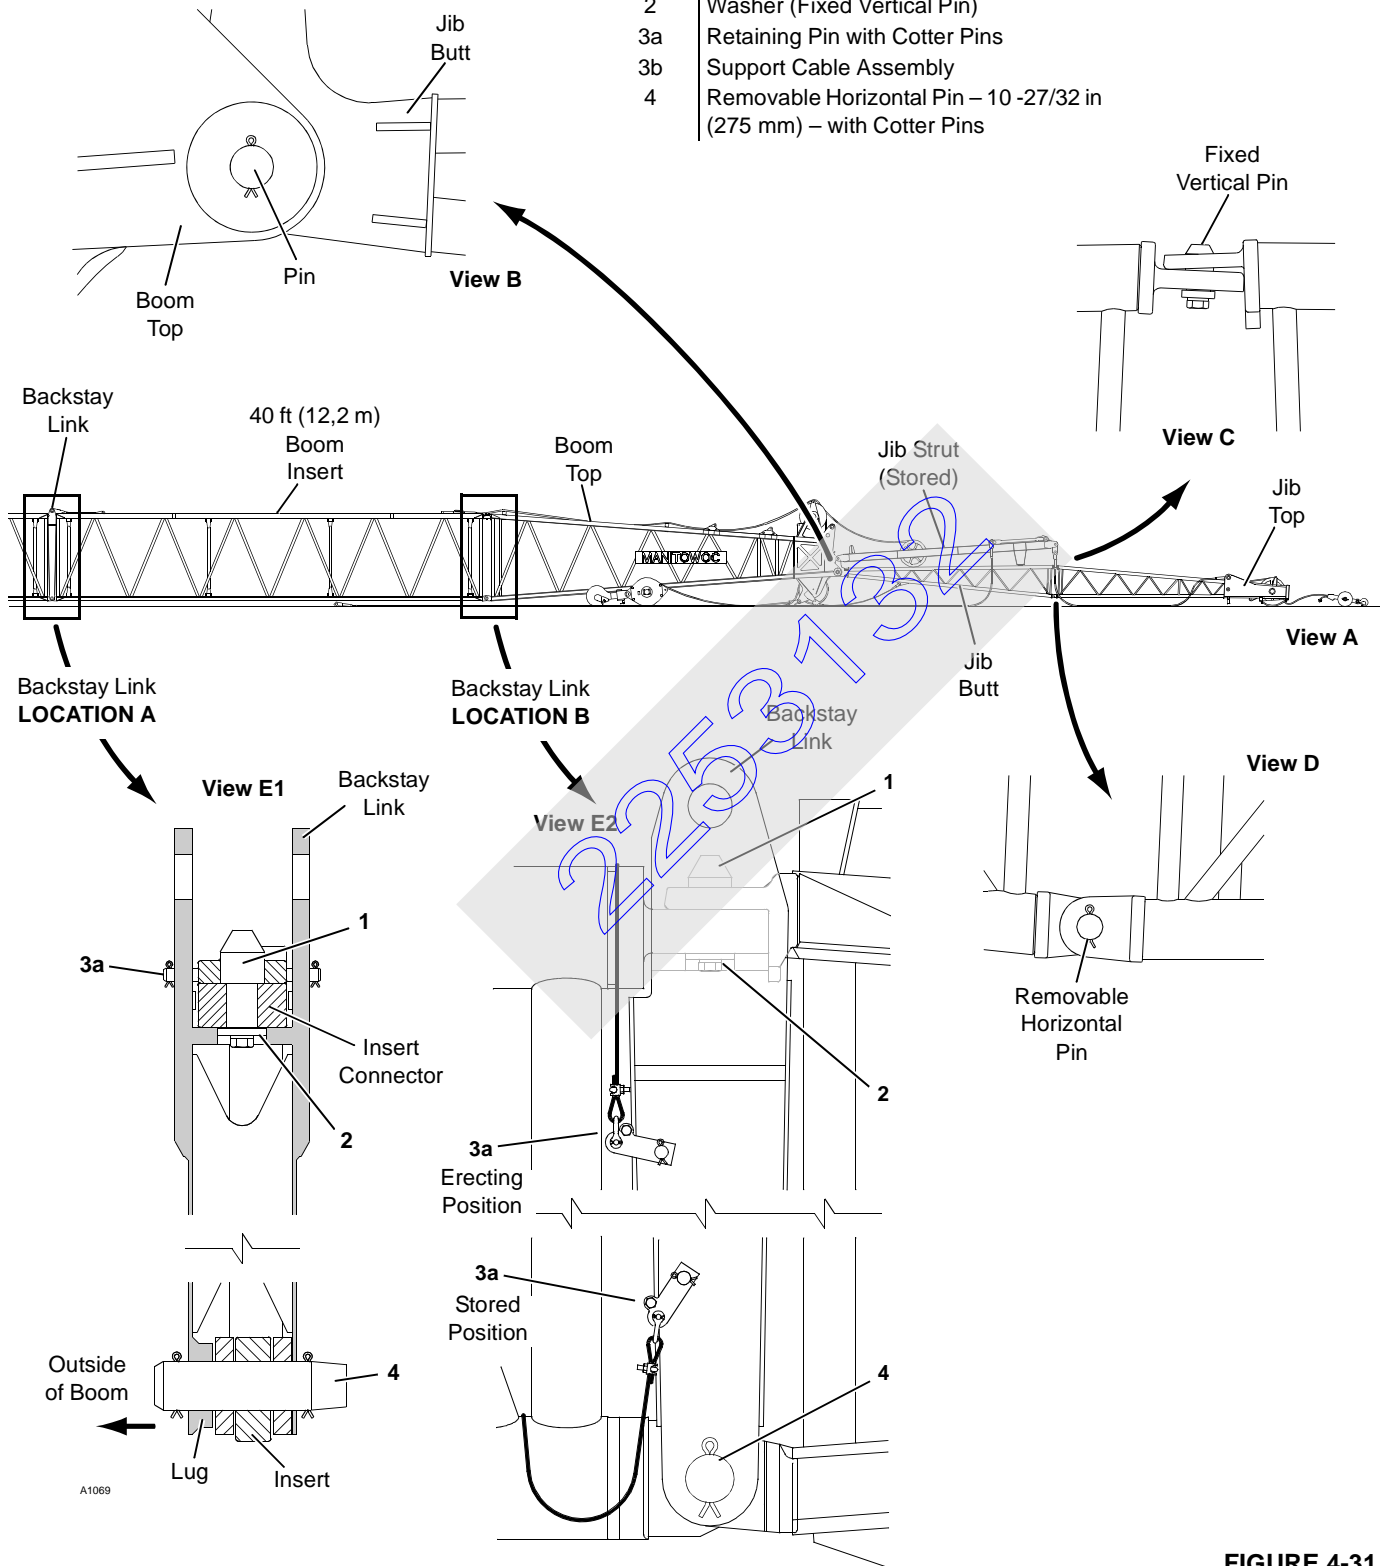

FIGURE 4-31
4. Install jib backstay links between boom sections at Location A or B, Figure 4-31. **See Jib Assembly Drawing for proper mounting location.**
Lug at bottom connecting holes in link must be toward outside of boom. (Figure 4-31, View E1).
- c. Lift backstay link upward and engage hole in link with washer (2, Figure 4-31, View E1) on underside of insert connector.
- d. For Location A, install retaining pin (3a, Figure 4-31, View E1) through holes on butt side of link to prevent link from falling off insert.
For Location B, move support cable assembly (3b, Figure 4-31, View E2) from stored position to erecting position to prevent link from falling off insert. If necessary, adjust cable length so bottom connecting holes are aligned when assist crane is disconnected.
Replace standard horizontal connecting pins with 10-27/32 in (275 mm) long pins (4, Figure 4-31, View E) supplied with backstay links.
NOTE: The jib strut is shipped in the stored position on the jib butt (Figure 4-31, View A).
2. Align holes in jib butt with holes in boom top and install connecting pins (Figure 4-31, View B).
- The top connectors are joined by fixed vertical pins that hook into holes in the adjacent section (Figure 4-31, View C).
- The bottom connectors are joined by removable horizontal pins (Figure 4-31, View D).